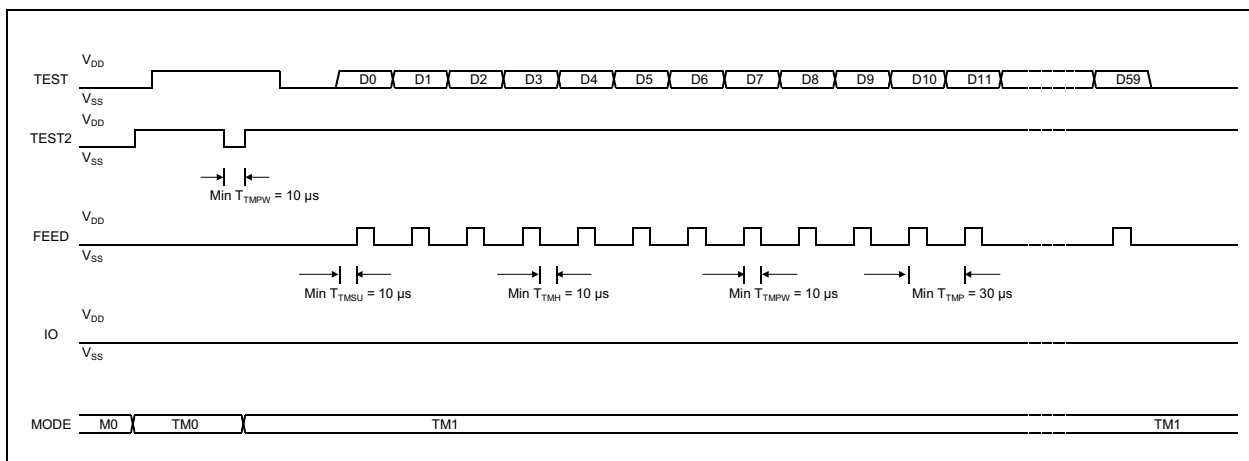

FIGURE 4-3: Timing Diagram for User Feature Selection in Serial Read/Write Mode TM1.
7. After the data has been entered into the shift register, pulse IO high for a minimum of 10 ms to store the data in EEPROM. The timing diagram is shown in Figure 4-3.